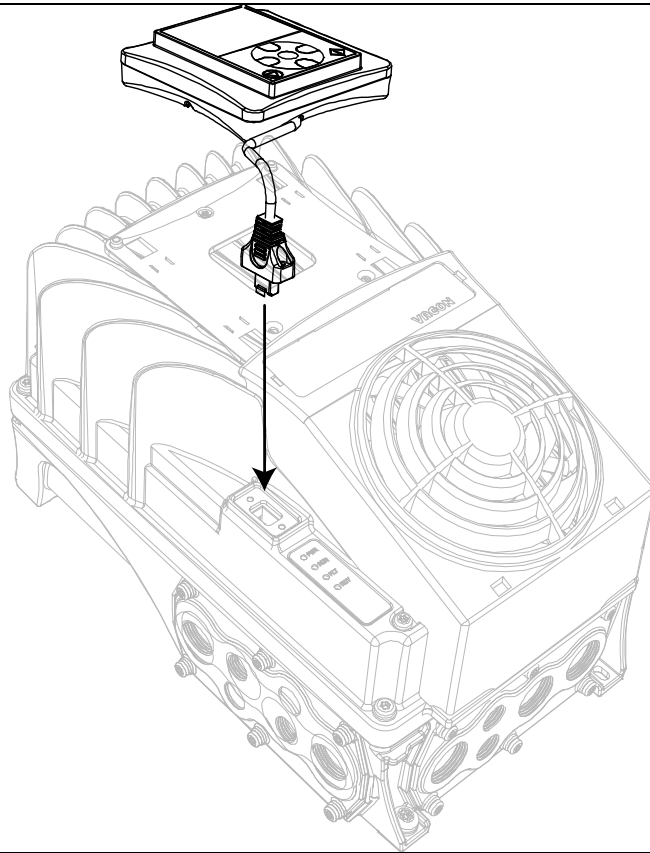
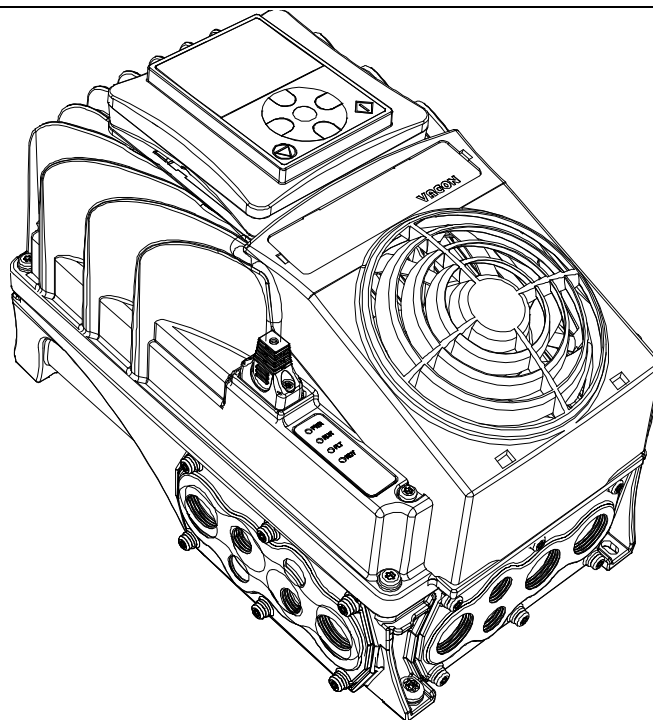

Figure 53. Mounting of the keypad
Figure 54. Keypad mounted onto the drive
- Connect the keypad to the drive and plug the cable on the HMI connector as shown in the Figure 53 and in the Figure 54.